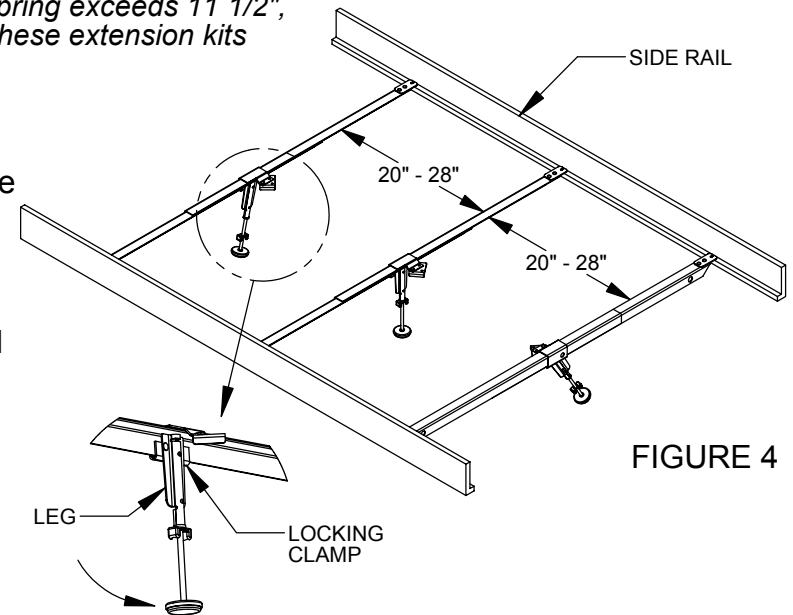

FIGURE 4
Step 3. Place assembled CROSS SUPPORTS between SIDE RAILS as shown in Figure 4. Spacing between Cross Supports should be approximately 20"-28".